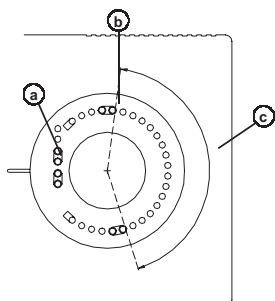

Fig. 3: Knob rotation limitation
2. Pick up the plastic pins (a) parked at one side of the knob area and set them (b) as in the example of Fig. 3. In this example the rotation range (c) is reduced as in the shown angle.